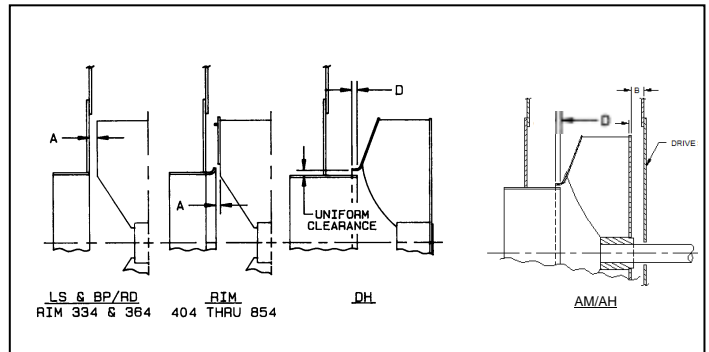

Figure 3
6. When installing a new wheel or cone, the proper wheel-to-inlet cone clearance must be maintained (see Figure 3).